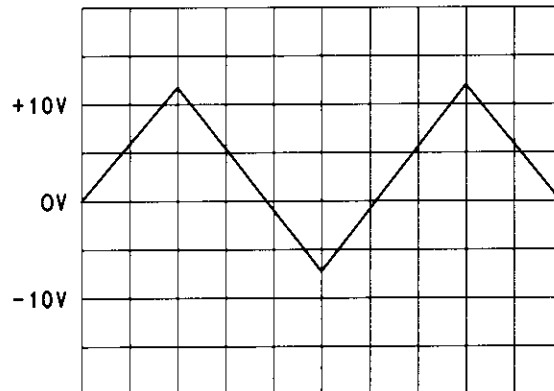

Figure 5-8. Tune Voltage Waveform
6. Adjust A4R55 (OFFSET ADJ) for the most symmetrical ramp as analyzed on the oscilloscope (equal rise and fall times) as shown in Figure 5-8.